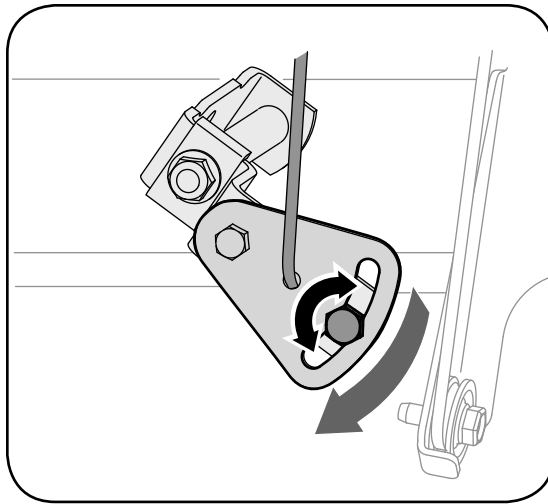

Figure 13
2. Loosen the hex nut on the shift cable index bracket. See Figure 13.